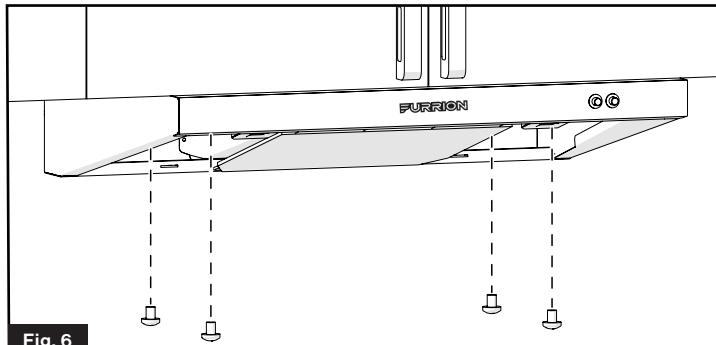

Fig. 6
5. Fix the range hood onto the top cabinet with the four screws provided. (Fig. 6)